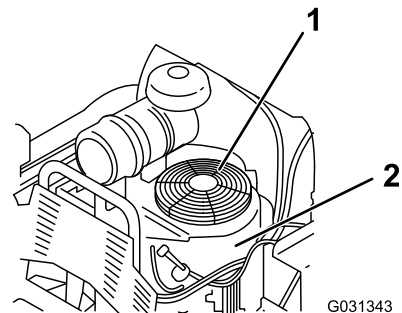

Figure 62
3. Remove the air-intake screen and fan housing (Figure 62).
5. Install the air-intake screen and fan housing (Figure 62).